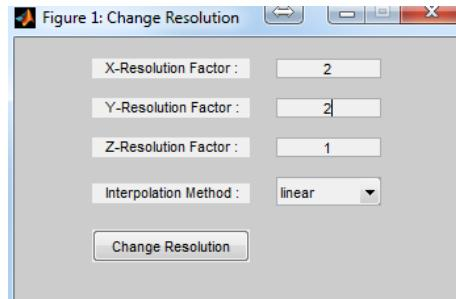

Figure 6.14: Interpolation Window. An example is shown to double spatial resolution in x and y direction by using a linear interpolation.
- : Resample current matrix by using chosen interpolation method (Figure 6.14). The user can specify sampling factors in x, y and z direction for 3D matrix.